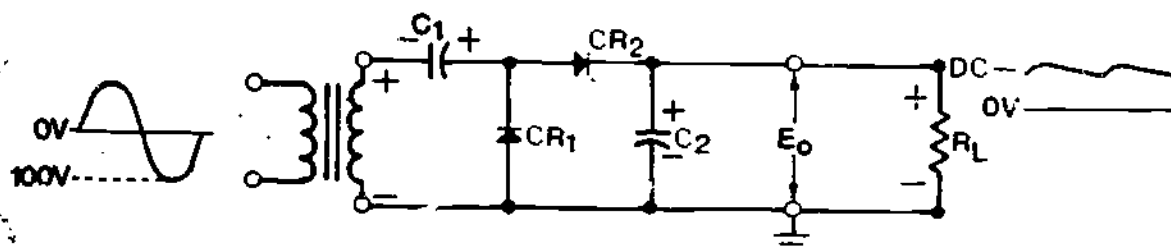

figure 8
9. When the polarity across the secondary of the transformer is reversed as shown in Figure 8, the top of the secondary is positive.